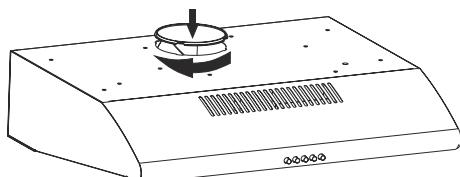

Fig. 8
- Insert blind plug provided with the installation accessories of your appliance to the flue outlet (Fig. 8).